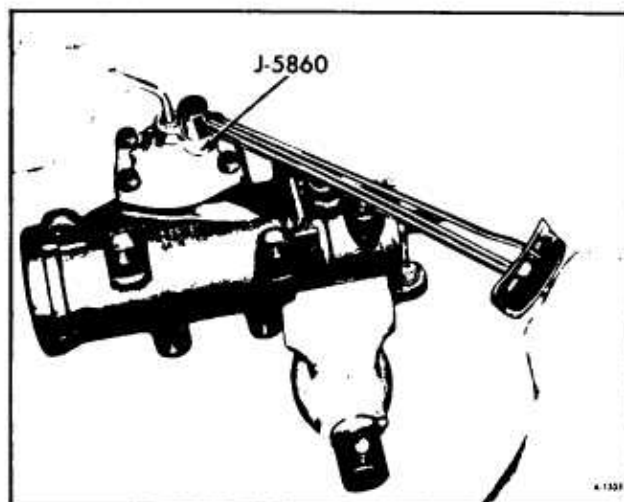

Figure 53—Torquing Over-Center Locknut
3. While holding the adjusting screw, tighten the locknut to 35 foot pounds using Adapter J-5860 (figure 53) and recheck the adjustment.